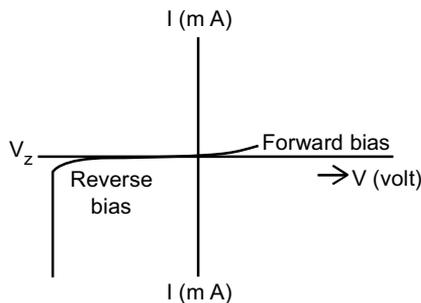

Fig. 28.12
Zener diode is fabricated by heavily doping both the *p*- and *n*-sides of the junction. Hence depletion layer formed is very thin ( $< 10^{-6}$  m). And the electric field across the depletion layer is extremely high ( $\sim 5 \times 10^6$  N C-1) even for a small reverse bias voltage of 5 V. The I-V characteristics of a Zener diode is shown in Fig. 28.12. It is seen that when the applied reverse voltage (V) reaches the breakdown voltage ( $V_z$ ) of the Zener diode, there is a large change in the current. After the breakdown voltage  $v_z$ , a large change in the current can be produced by almost insignificant change in the reverse bias voltage. Zener voltage remains constant, even though the current through the Zener diode varies over a wide range.